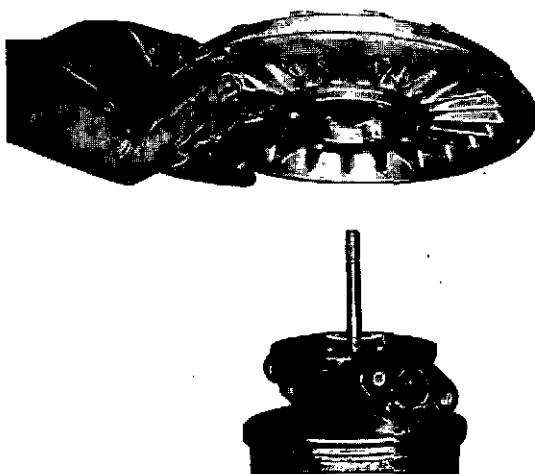
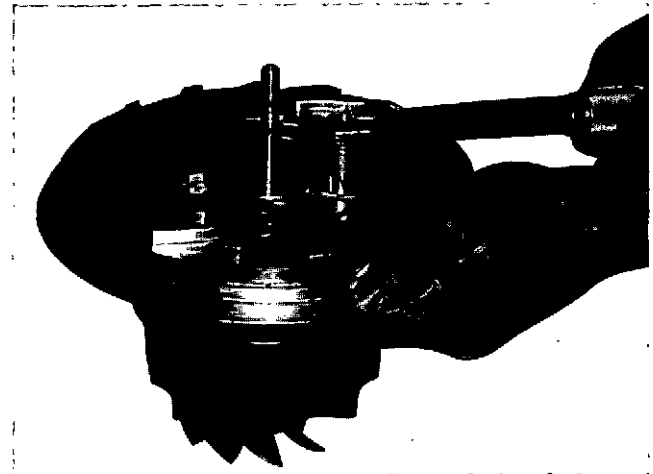

Fig. 5-31, (TA33). Installing the back plate
Fig. 5-32, (TA34). Torquing the back plate capscrews
9. Align the oil feed holes of the center housing and the new back plate. Position the back plate on the center housing, Fig. 5-31. Install the new lockplates and capscrews. Torque the capscrews to 90/110 in-lb [18.1/20.3 N•m] for cast iron, back plates, Fig. 5-32.